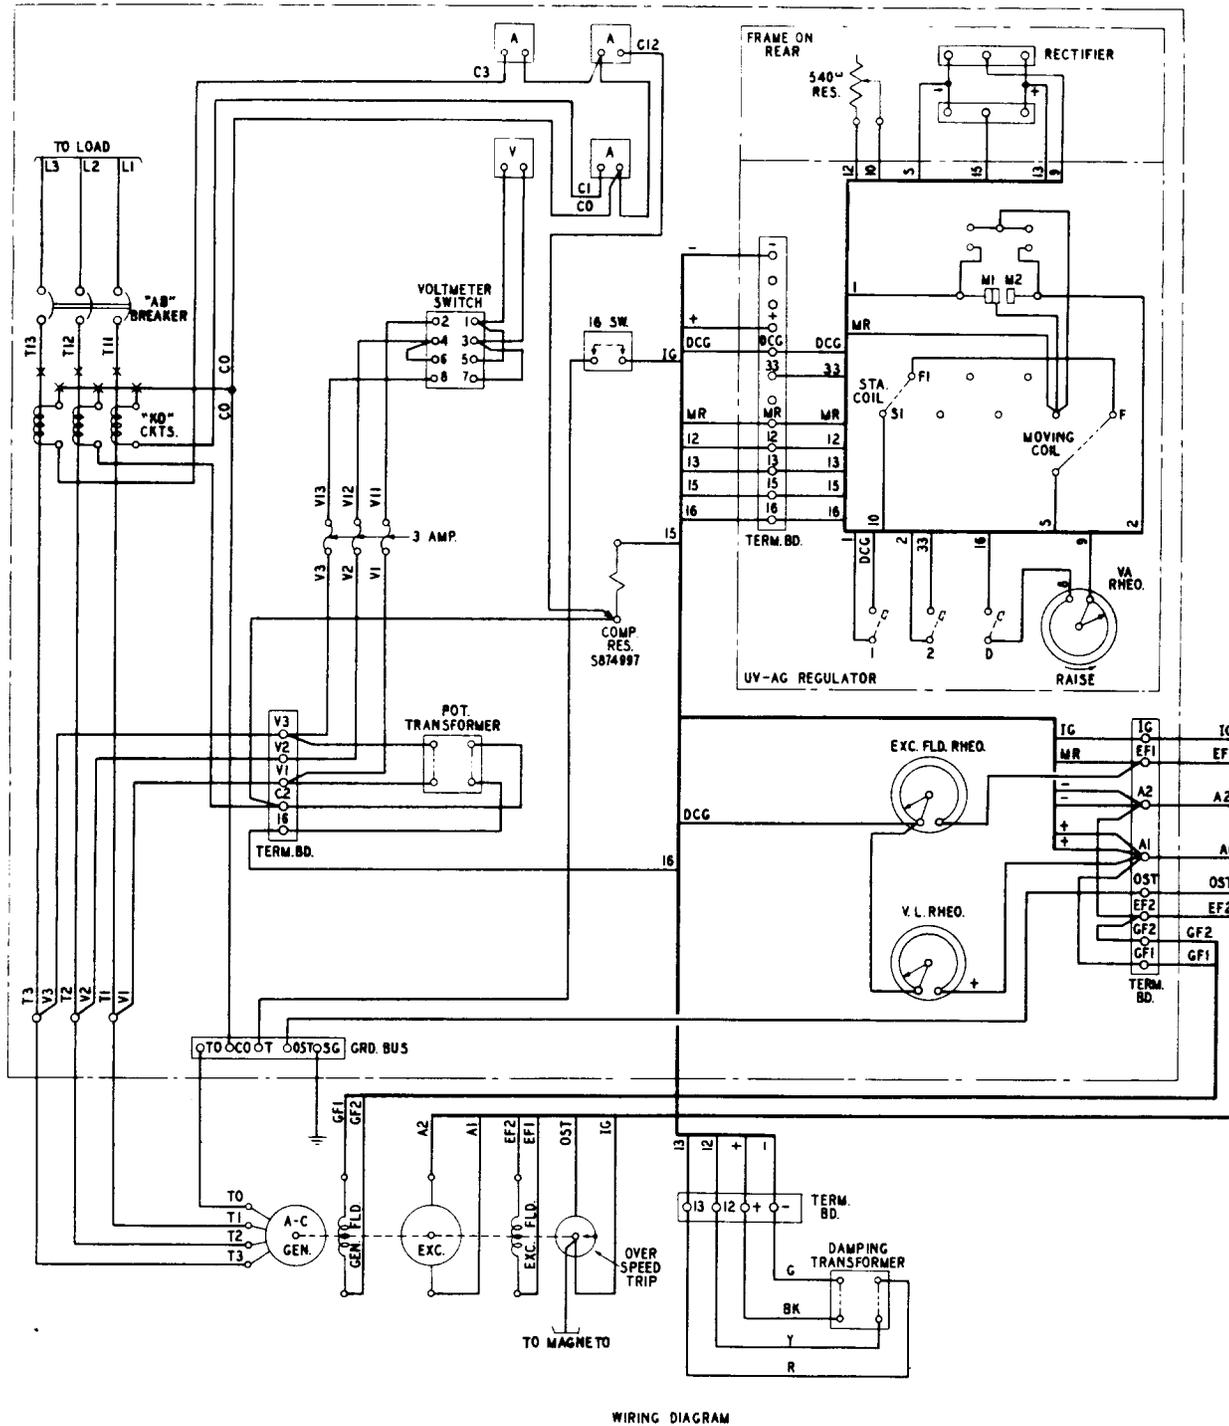

Fig. 1 - Wiring Diagram - Westinghouse Type UV-AG Regulator
1.03 Operation as described herein assumes that the polarity at the contacts is as shown in the wiring diagram. (See Fig. 1) Should the polarity become reversed, it may be corrected by disconnecting the leads from the exciter field at the terminal board on the set and applying a separate source of d-c potential of from 24 to 125 volts, having the proper polarity for a few moments. In the attached sketch disconnect the leads marked "EF1" and "EF2" at the terminal board and apply separate potential to these leads in such a manner that "EF1" is positive and "EF2" negative. Repeat as necessary until the exciter field builds up so that when the positive terminal of a d-c voltmeter is connected to "EF1" and the other terminal to "EF2" a direct reading of the voltmeter will be obtained.